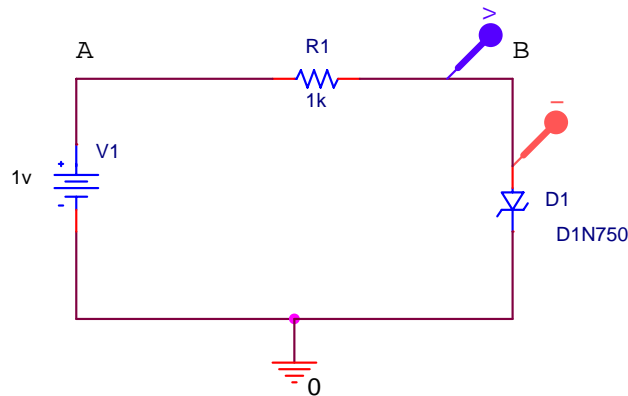

Figure D-3
- Wire the circuit in figure D-3 in PSpice. The Zener diode is D1N750. It is in the "EVAL" PSpice library.